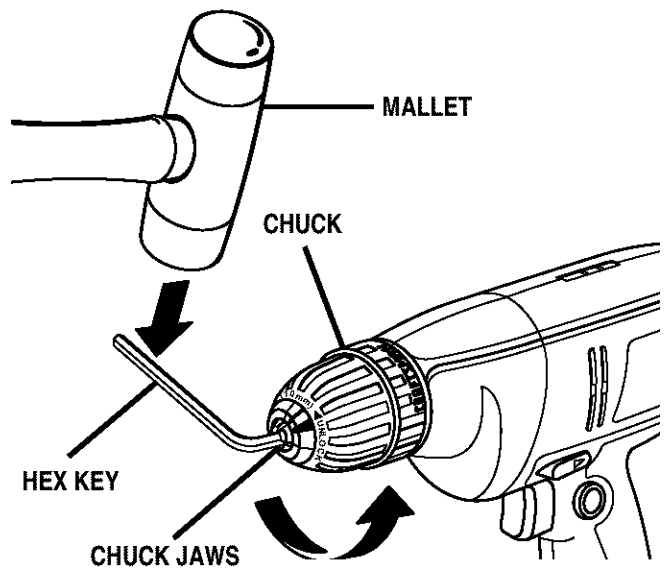

Fig. 11
See Figure 11.
- Tap the hex key sharply with a mallet in a counterclockwise direction. See Figure 11.
- It can now be unscrewed by hand. See Figure 11.